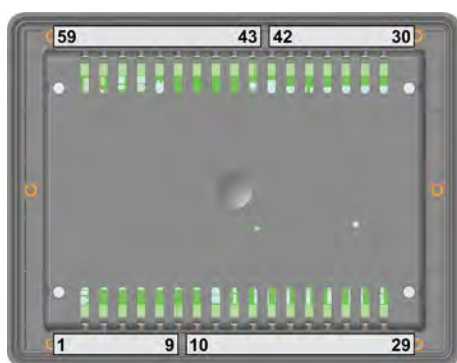

Fig. 15: Terminal allocation
- easYgen-2200/2300 - shown in Fig. 15